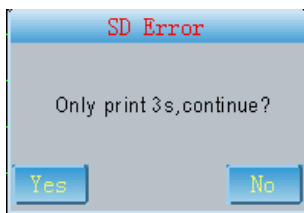

Fig. 7-32
(4) if there is no enough memory in SD card to store this case, the prompt as Fig.7-32 will